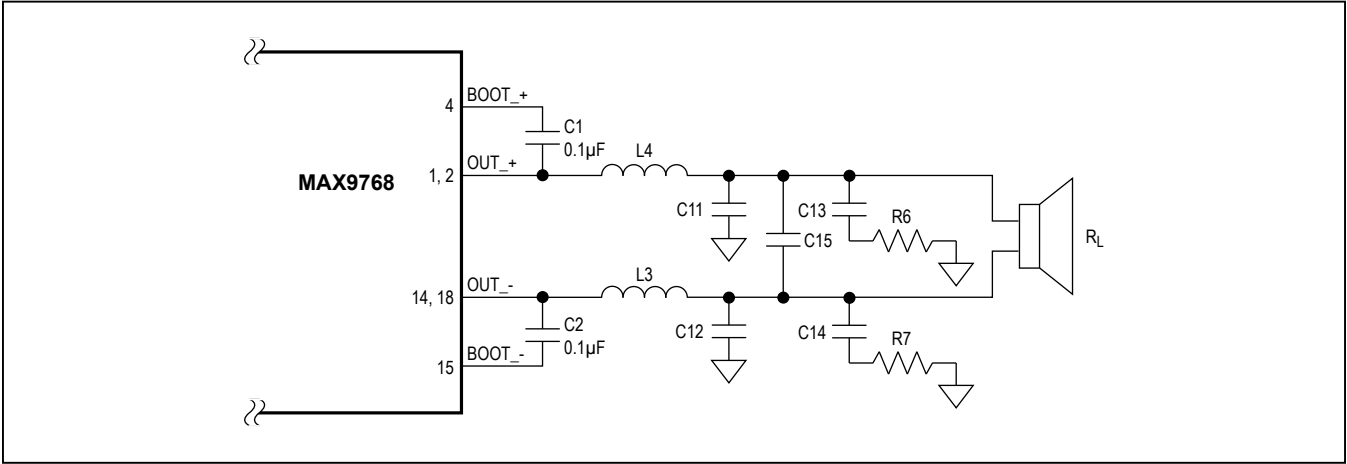

Figure 8. Output Filter for PWM Mode
Some applications will use the MAX9768 with a full inductor-/capacitor-based (LC) output filter. This is common for longer speaker lead lengths, and to gain increased margin to EMC limits. Select the PWM output mode and use fixed-frequency modulation mode for best audio performance. See Figure 8 for the correct connections of these components.